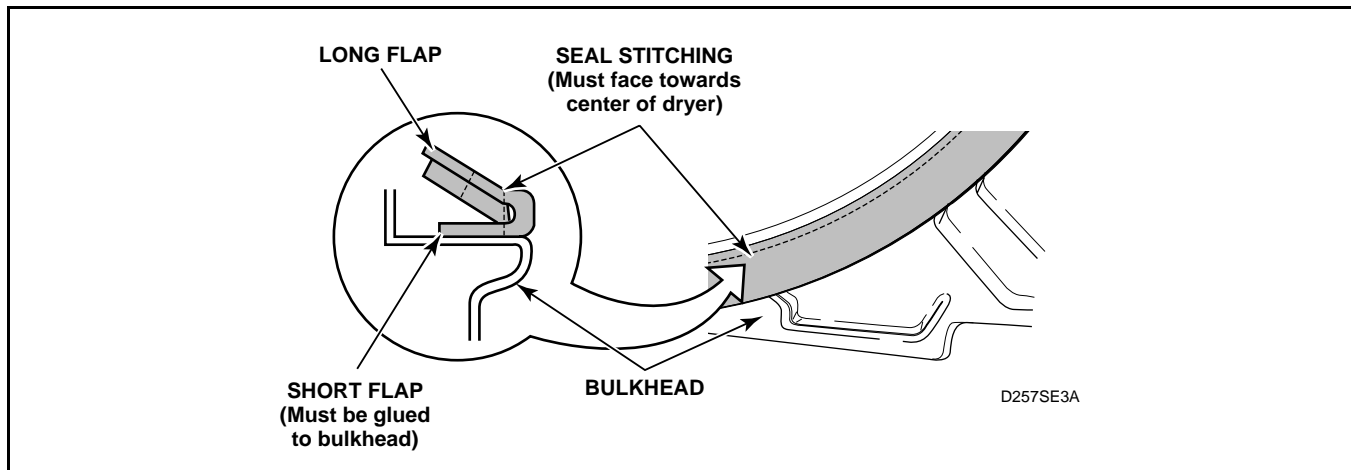

Figure 30
i. Front Cylinder Seal (*Figure 30*)